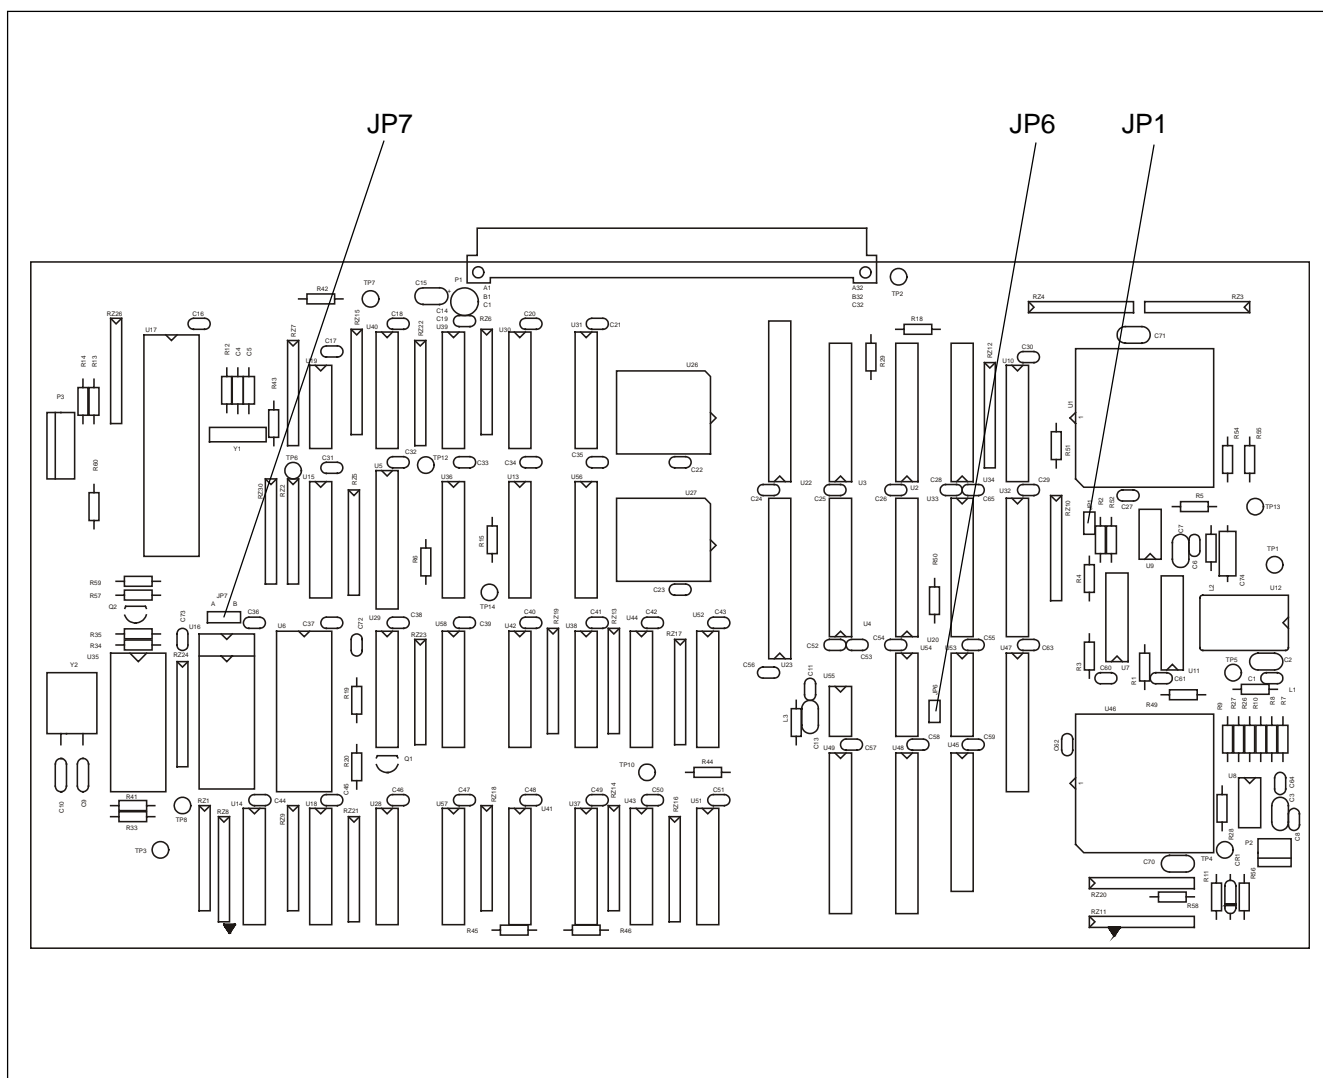
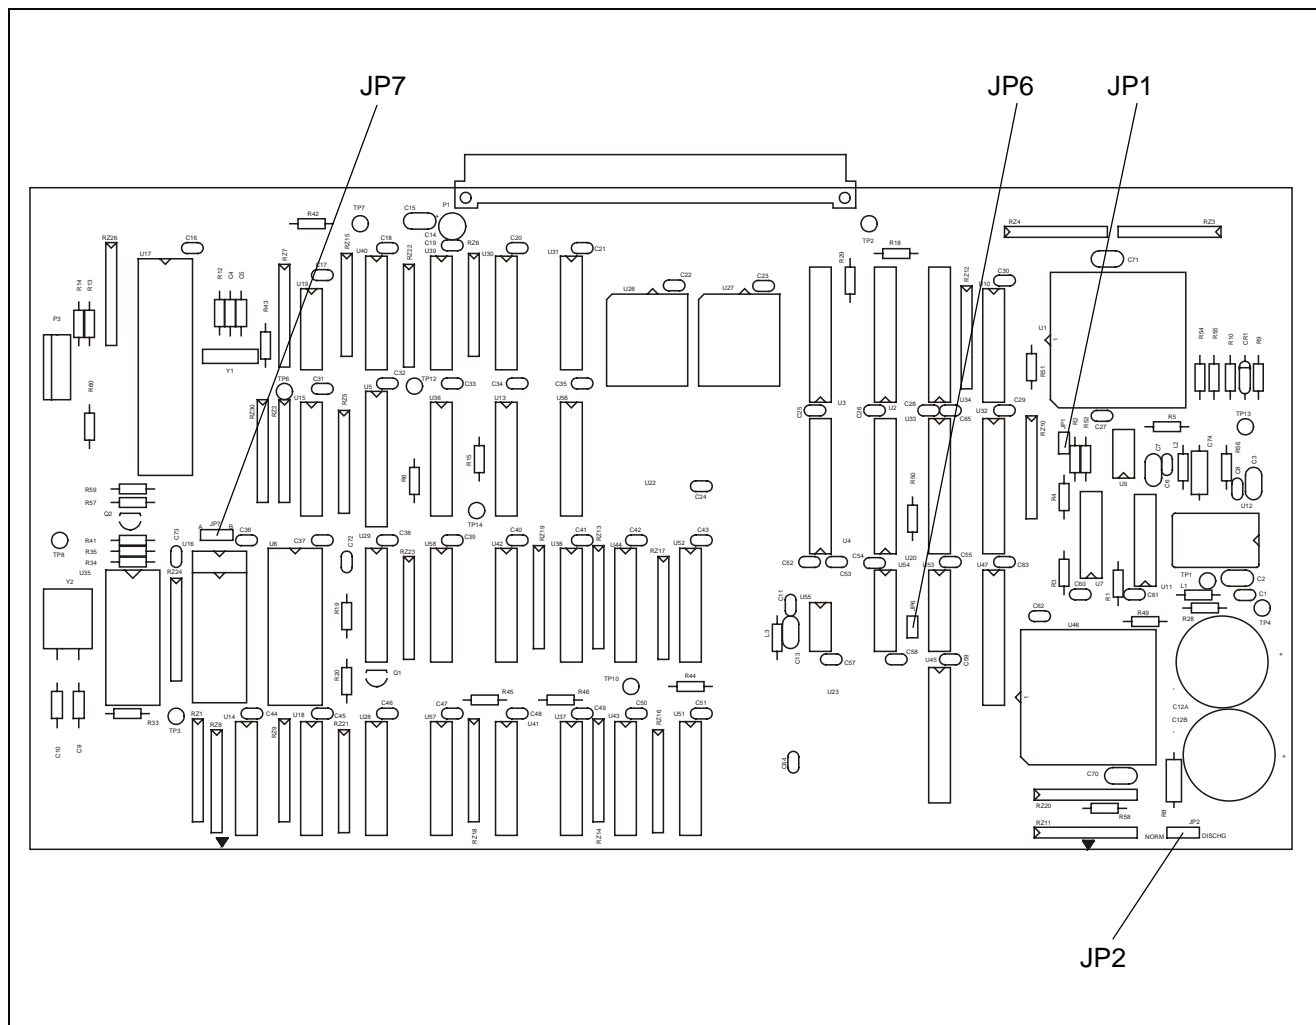
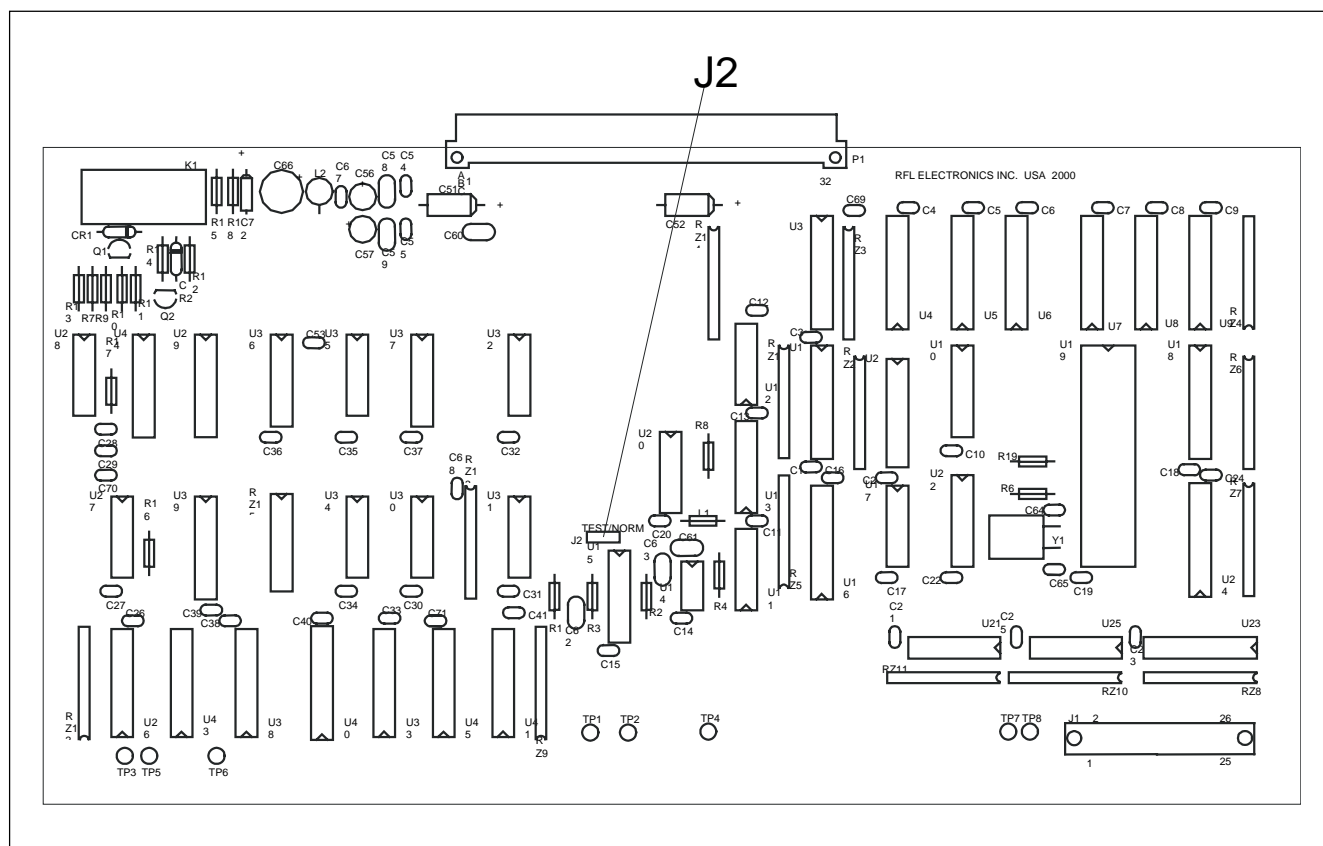

Figure 3-12. Location of jumpers on a CPU Module with battery backed RAM
Figure 3-13. Location of jumpers on a CPU Module with capacitor backed RAM
Figure 3-14. Location of jumper J2 on Driver Module
There are three versions of the narrow band Audio Communications Module. Each version uses the same basic printed circuit board but only certain portions of each board are populated with components. The two-tone version of the module has one programmable jumper as shown in Figure 3-12. The three-tone version of the module has three programmable jumpers as shown in Figure 3-13. The four-tone version of the module has four programmable jumpers as shown in Figure 3-14. Each version can be supplied with screw type terminal blocks or plug-in compression type terminal blocks. Refer to Table 3-4 for additional information.
* Parameter 061 as shown in Figure 5-1 must be set to match the J10 jumper setting on the Audio Communications module (See Figures 3-12 or 3-13 for location). If jumper J10 is in position A, set Parameter 061 to “A”. If jumper J10 is in position B, set Parameter 061 to “B”. If the audio board has only two tones, jumper J10 cannot be set by the user since it is hard wired at the factory. In this case, Parameter 061 must be set to “B”.